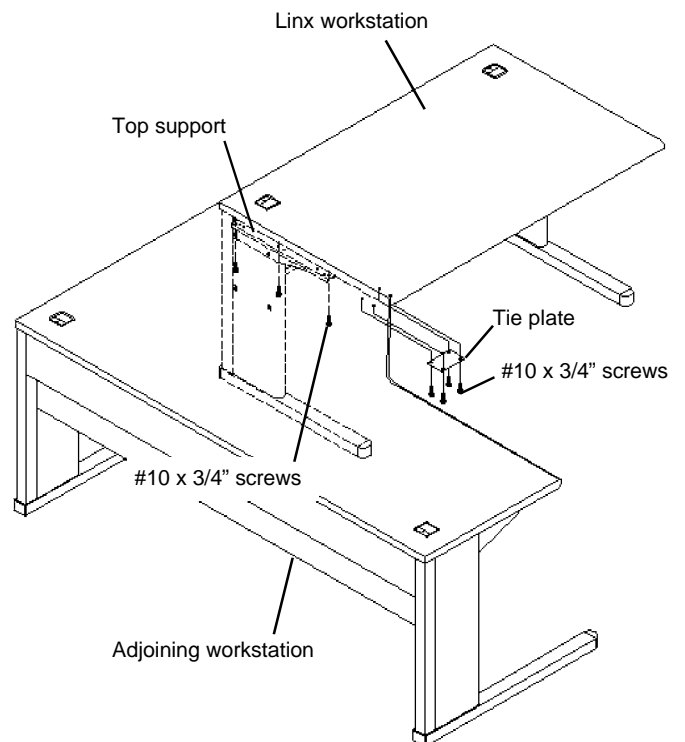

Figure 2
Fasten with three #10 x 3/4" screws. See **Figure 2**.
4. Install the Tie Plate on the underside of where the two tops meet in the front. Position the Tie Plate and drill four 1/8" diameter holes 1/2" deep, two holes in each top. Fasten the Tie Plate in place with four #10 x 3/4" screws. See **Figure 2**.